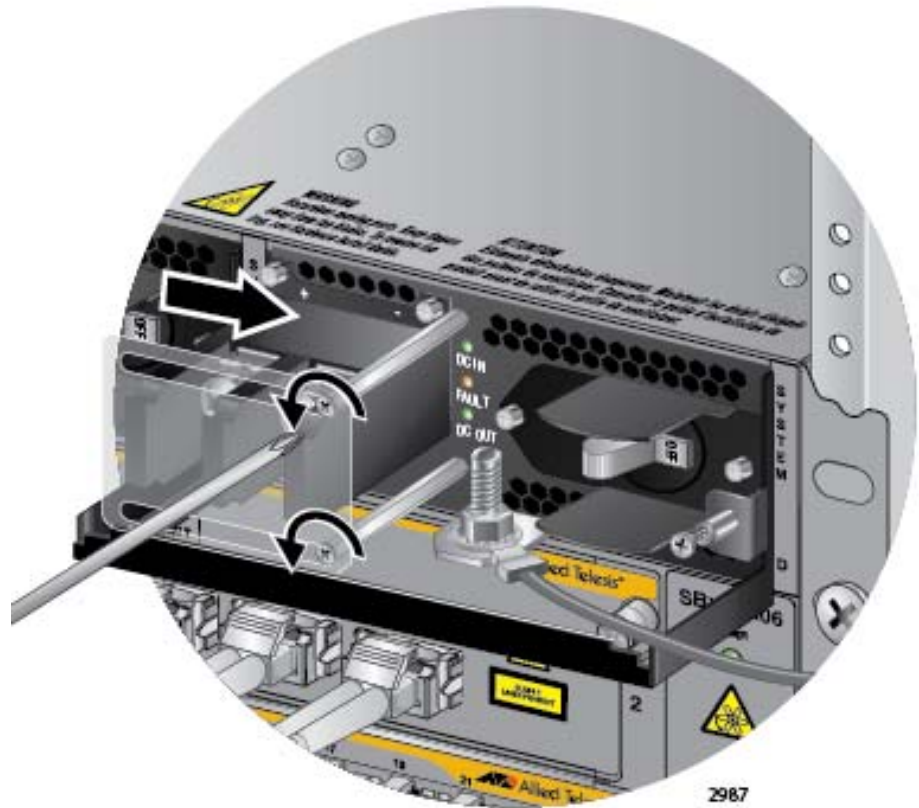

Figure 126. Opening the Plastic Cover
4. Use a #1 Phillips-head screwdriver to loosen the two screws on the plastic cover over the positive and negative terminals on the power supply and slide the cover to the right, as shown in Figure 126 on page 193. You may need to slightly lift the locking handle to access the bottom screw.
2. Use a #1 Phillips-head screwdriver to loosen the two screws on the plastic cover over the positive and negative terminals on the power supply and slide the cover to the right, as shown in Figure 126 on page 193. You may need to lift the locking handle slightly to access the bottom screw.